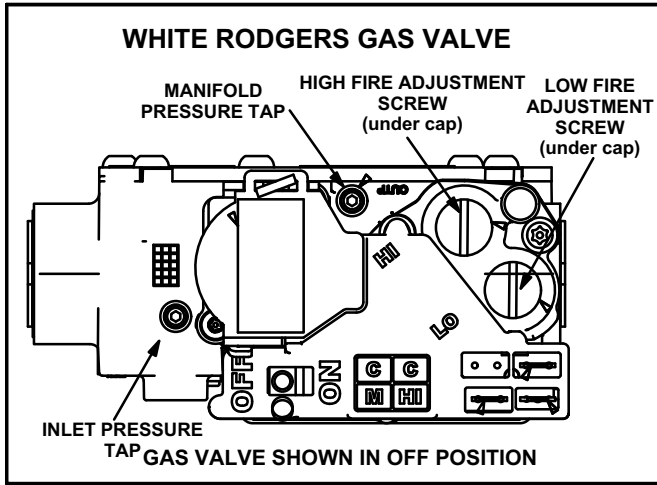

FIGURE 4
- 2 - Remove the access panel. Move the automatic gas valve switch to **OFF**. See figure 4.
- 6 - Move the switch on the gas valve to **OFF**. Do not force the switch. See figure 4.
- 1 - Connect test gauge to manifold pressure tap (figure 4) on gas valve.
- 4 - If necessary, make adjustments. Figure 4 shows location of high fire and low fire adjustment screws.